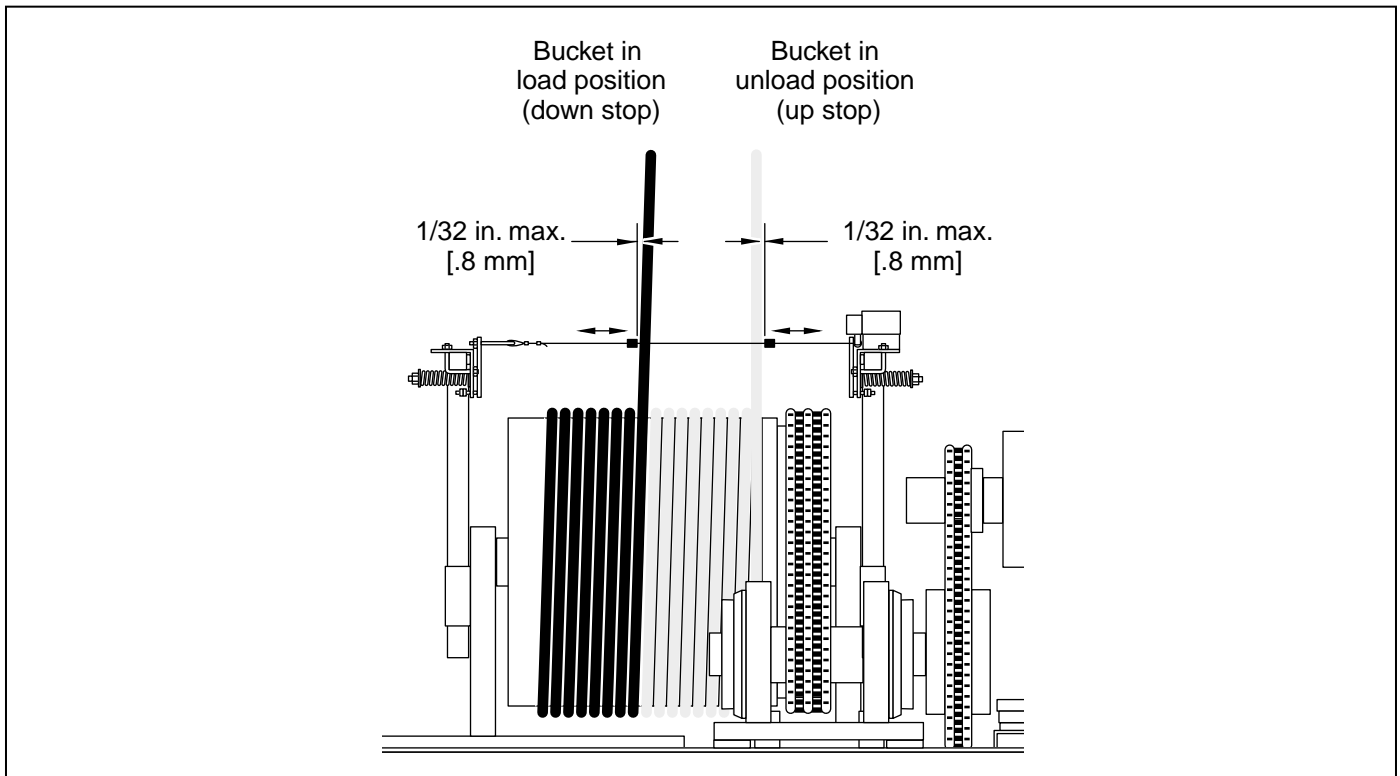

Figure 3.16 Trip Cable Clamp Locations – Cable Switch
Refer to the following procedure, Figure 3.16 and Besser drawing 458053 to install and/or adjust the cable switch:
6. Install the two switch activation clamps provided. Follow the cable limits as shown in Figure 3.16.